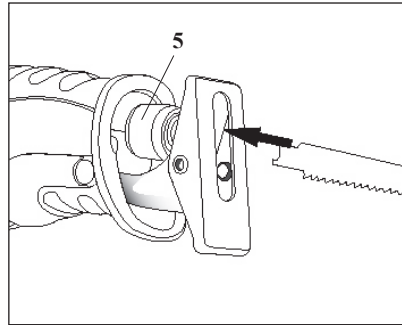

Fig. 2
3.1 Fitting a saw blade (Fig. 2)